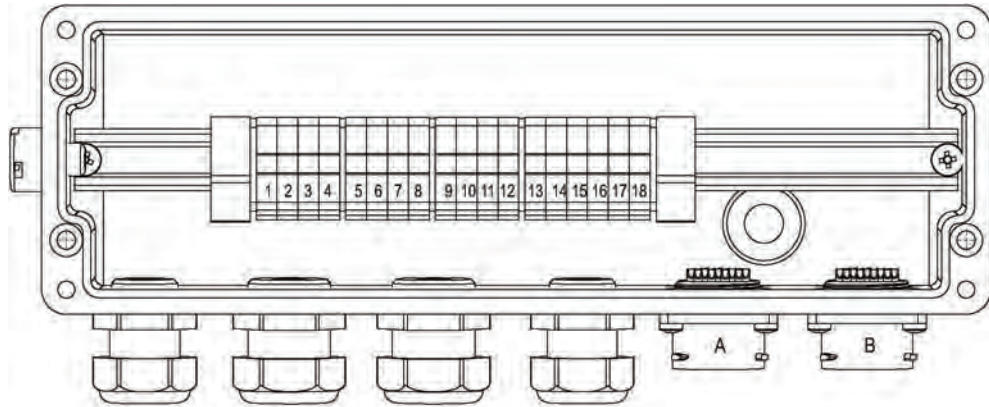

Fig. 27-1 NFM with Connector Box (principle)
A Connector Box (Fig. 27-1 Pos. 6) is used if, in addition to the flow velocity/level sensors on the NivuFlow Mobile 750 (Fig. 27-1 Pos. 1), more than one sensor or actuator is to be connected via the inputs/outputs.
The Connector Box can either be mounted directly on the NivuFlow Mobile in conjunction with the hoop guards (Fig. 27-1 Pos. 2) or attached/stored at another location.
1. Unscrew the rubber buffers (not shown) on the back of the NivuFlow Mobile (Fig. 27-1 Pos. 1).
The two screw-on plates (Fig. 27-1 Pos. 3) (now loose) in the screw-on channels (Fig. 27-1 Pos. 4) and the rubber buffers are needed again in the next step.
2. Attach the hoop guards (Fig. 27-1 Pos. 2) and the screw-on plates to the NivuFlow Mobile with the rubber buffers.
3. Fasten the Connector Box (Fig. 27-1 Pos. 6) to the hoop guards with the screws supplied.
5. Insert the plug (Fig. 27-1 Pos. 5) of the Connector Box connection cable into the multifunction socket on the NivuFlow Mobile.